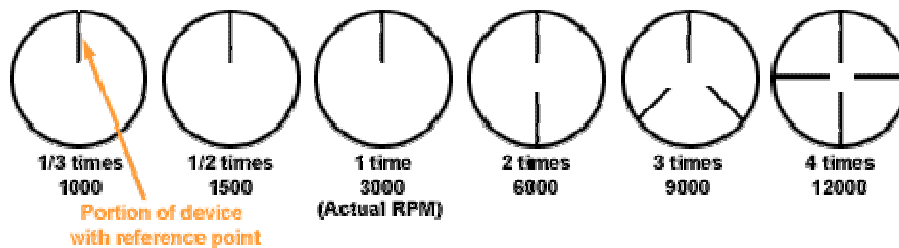

Figure 2: Stopped images for a motor rotating at 3000 RPM.
- The **first single** image seen is the true speed (revolutions per minute), as shown in *Figure 2*. To confirm this true speed, double the flash rate by pressing the **x2** button on the display panel to see if two still images of the reference point appear.